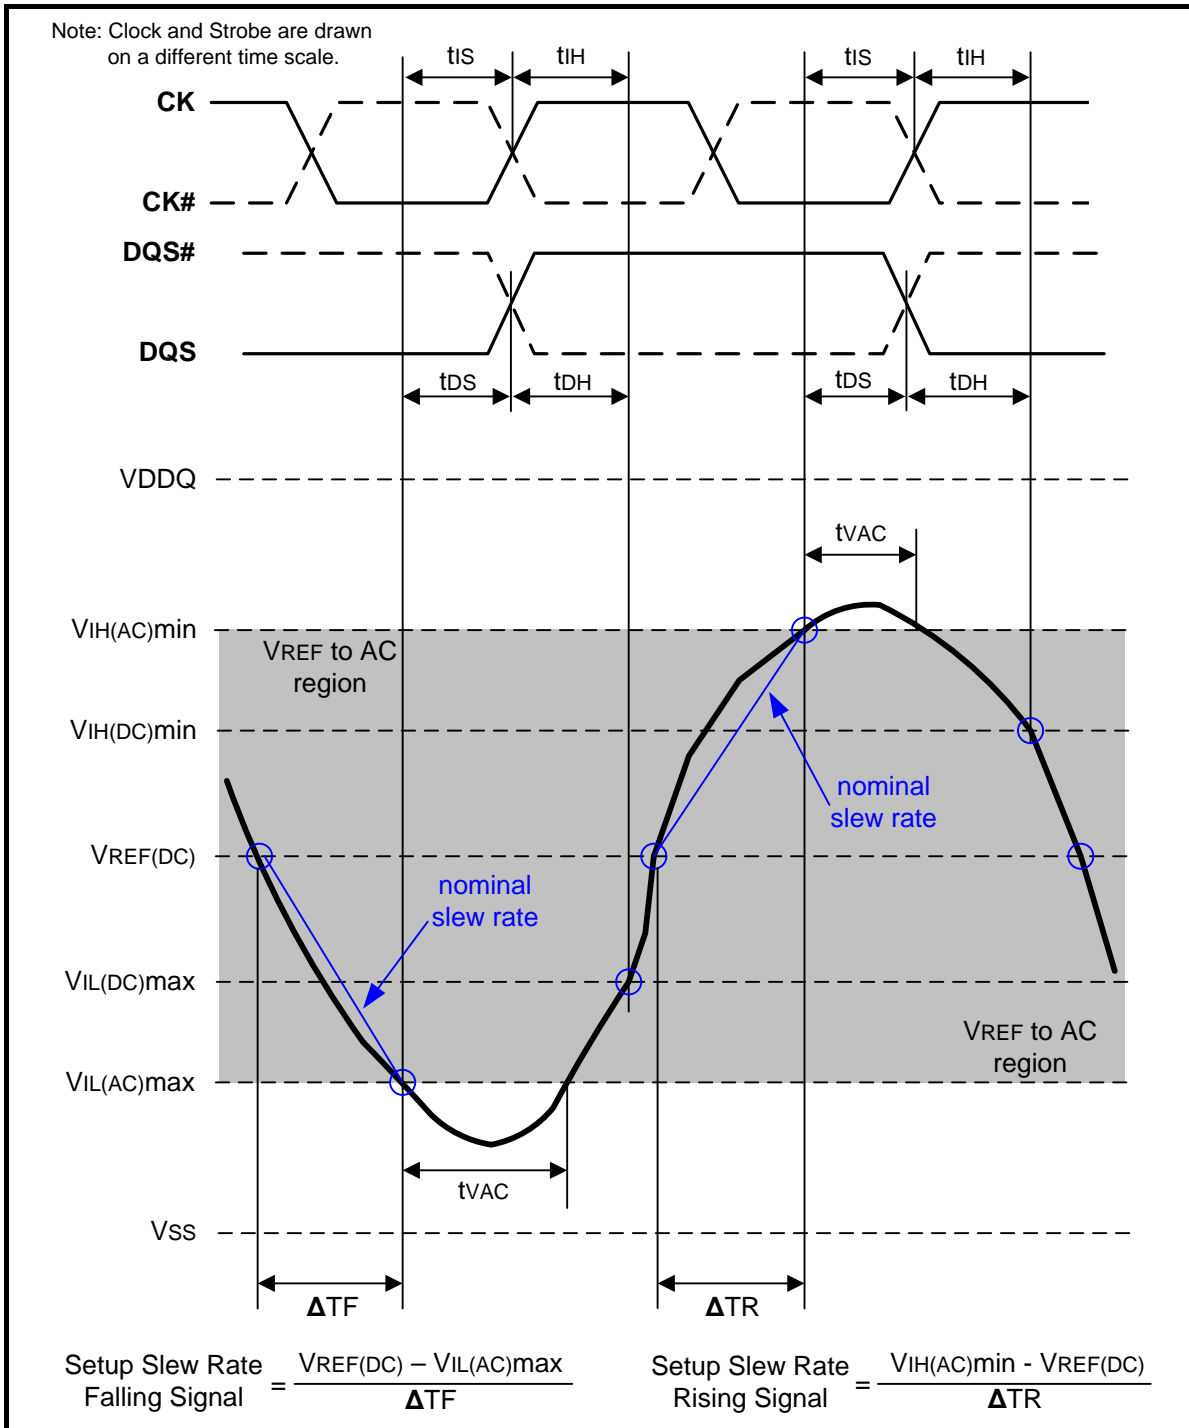
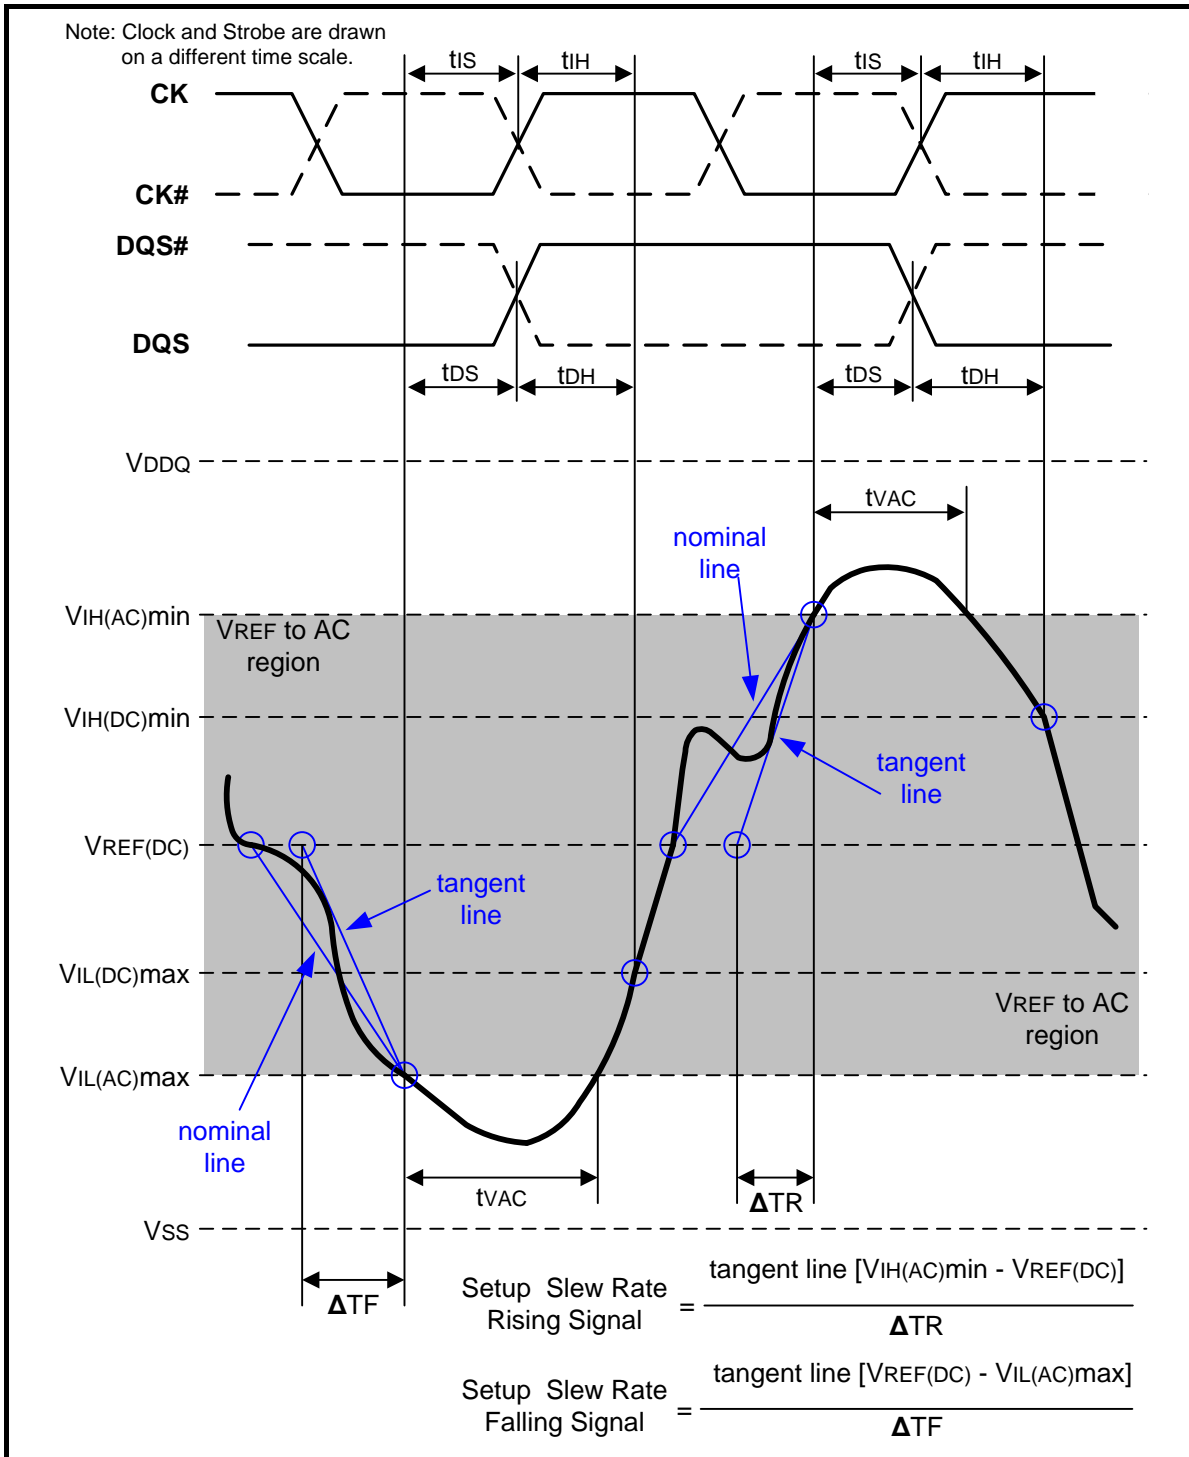

Figure 107 – Illustration of nominal slew rate and tvAC for setup time tDS (for DQ with respect to strobe) and tIS (for ADD/CMD with respect to clock)
Figure 109 – Illustration of tangent line for setup time t_{DS} (for DQ with respect to strobe) and t_{IS} (for ADD/CMD with respect to clock)
Setup (t_{IS}) nominal slew rate for a rising signal is defined as the slew rate between the last crossing of $V_{REF}(\text{DC})$ and the first crossing of $V_{IH}(\text{AC})_{\text{min}}$. Setup (t_{IS}) nominal slew rate for a falling signal is defined as the slew rate between the last crossing of $V_{REF}(\text{DC})$ and the first crossing of $V_{IL}(\text{AC})_{\text{max}}$. If the actual signal is always earlier than the nominal slew rate line between shaded 'VREF(DC) to AC region', use nominal slew rate for derating value (see Figure 107). If the actual signal is later than the nominal slew rate line anywhere between shaded 'VREF(DC) to AC region', the slew rate of a tangent line to the actual signal from the AC level to DC level is used for derating value (see Figure 109).
Setup (tDS) nominal slew rate for a rising signal is defined as the slew rate between the last crossing of VREF(DC) and the first crossing of VIH(AC)min. Setup (tDS) nominal slew rate for a falling signal is defined as the slew rate between the last crossing of VREF(DC) and the first crossing of VIL(AC)max (see Figure 107). If the actual signal is always earlier than the nominal slew rate line between shaded 'VREF(DC) to AC region', use nominal slew rate for derating value. If the actual signal is later than the nominal slew rate line anywhere between shaded 'VREF(DC) to AC region', the slew rate of a tangent line to the actual signal from the AC level to DC level is used for derating value (see Figure 109).